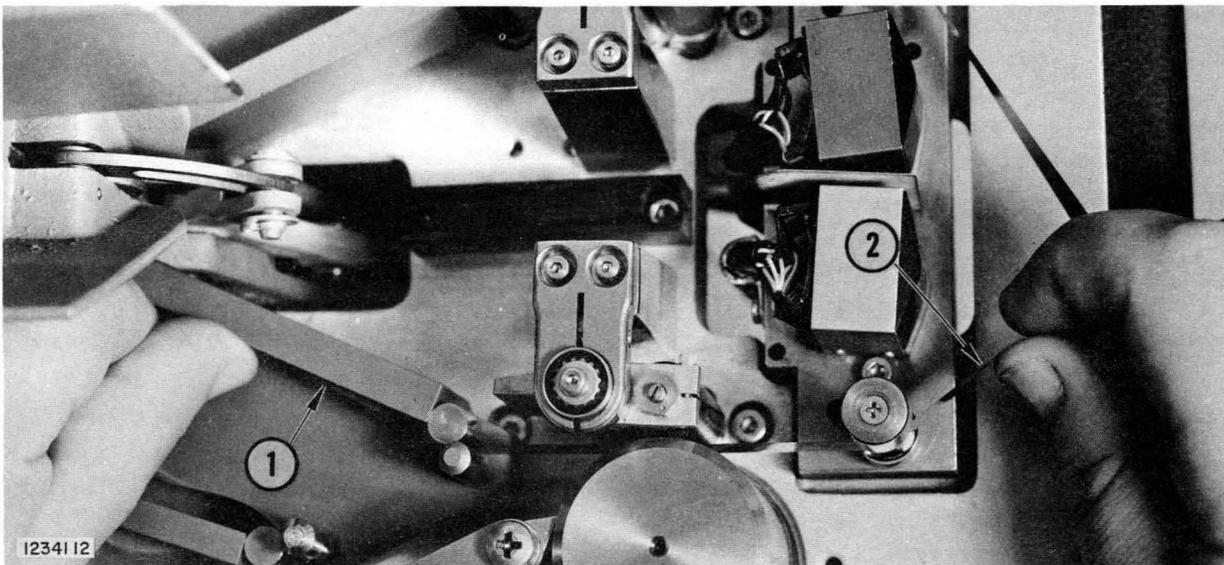

Figure 5-10. Checking Vacuum Chamber Alignment
Step 4: See Figure 5-10. Tape held in a horizontal plane should not touch either capstan roller or capstan. If tape touches capstan, vacuum chamber assembly and/or head assembly must be adjusted.